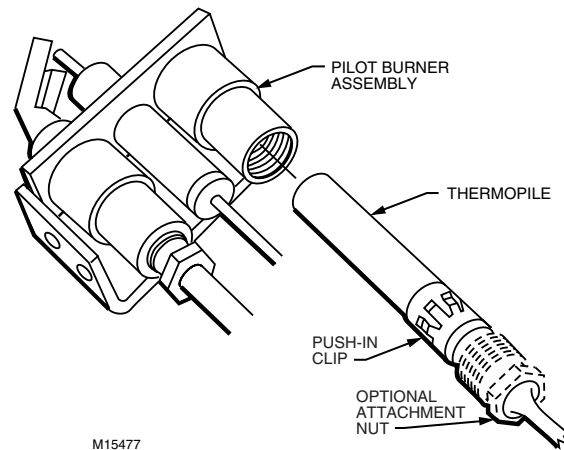

Fig. 2. Installing thermocouple/thermopile with push-in clip
1. Insert thermocouple/thermopile tip into hole or barrel provided beneath the pilot burner (see Fig. 2).